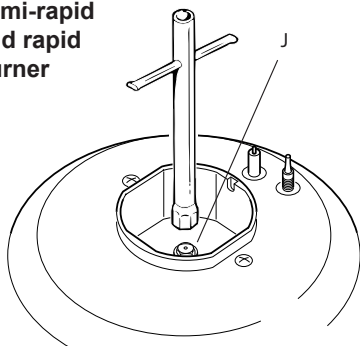

Fig. 2.2a
- Using a wrench, substitute the injectors “J” (figs. 2.2a, 2.2b, 2.2c, 2.3d) with those most suitable for the kind of gas for which it is to be used.